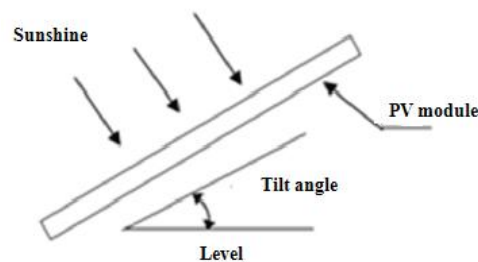

Figure 8 Module tilt angle
**5.3.1** The tilt angle of the Modules is measured between the surface of the modules and a horizontal ground surface, the modules generates maximum power output when it faces the sun directly, as shown in figure 8.